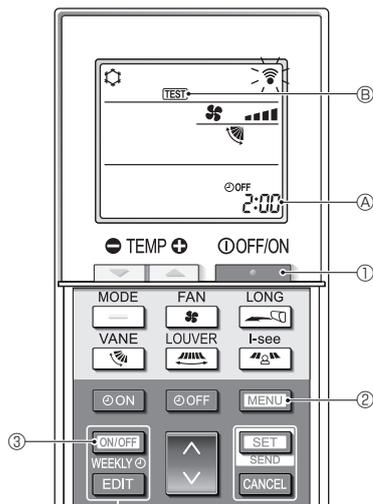

Fig. 7-5
■ Test run (Fig. 7-5)
- Press the **[ON/OFF]** button ① to stop the air conditioner.
- If the weekly timer is enabled (**WEEKLY** is on), press the **[ON/OFF WEEKLY]** button ③ to disable it (**WEEKLY** is off).
- Press the **[MENU]** button ② for 5 seconds.
- Press the **[MENU]** button ②.
- TEST** ⑥ comes on and the unit enters the test run mode.